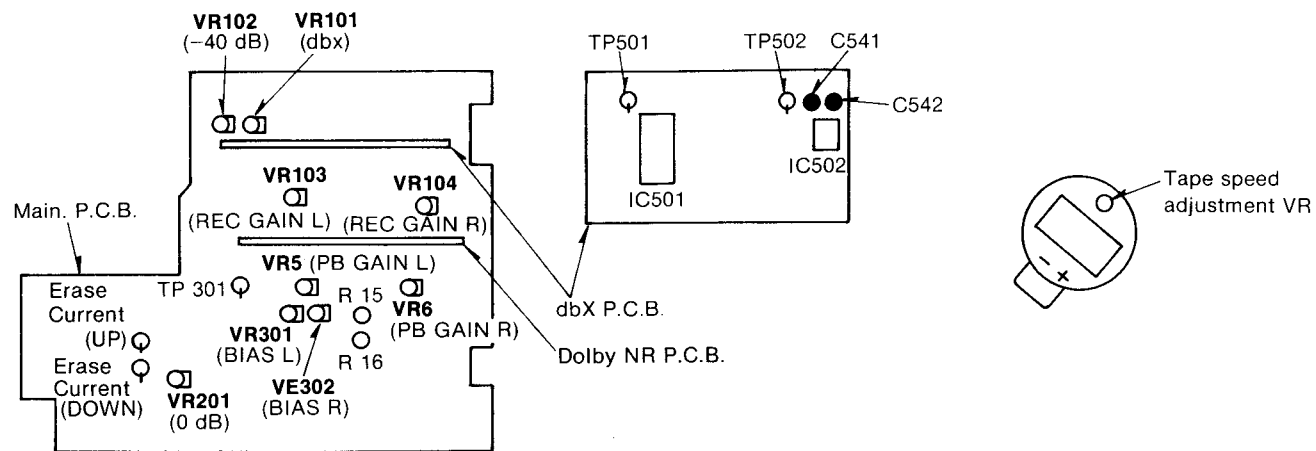
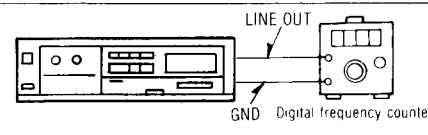

Fig. 1
Fig. 7
<p>Tape speed</p> <p>Condition: • Playback mode</p> <p>Equipment: • Digital frequency counter • Test tape...QZZCWAT</p>	<p>Tape speed accuracy</p> <p>1. Test equipment connection is shown in fig. 7.</p> <p>2. Playback test tape (QZZCWAT 3,000Hz), and supply playback signal to the digital frequency counter.</p> <p>3. Measure this frequency.</p> <p>4. On the basis of 3,000Hz, determine value by following formula:</p> $\text{Tape speed accuracy} = \frac{f-3,000}{3,000} \times 100(\%) \quad \text{where, } f = \text{measured value}$ <p>5. Take measurement at middle section of tape.</p> <p style="text-align: center;">Standard value: ±0.33% (3000±10 Hz)</p> <p>6. If measured value is not within the standard value, adjust it by using the tape speed adjustment VR shown in fig. 1.</p> <p>Note: Please use non metal type screwdriver when you adjust tape speed accuracy on this unit.</p> <p>Tape speed fluctuation</p> <p>Make measurements in same manner as above (beginning, middle and end of tape), and determine the difference between maximum and minimum values and calculate as follows:</p> $\text{Tape speed fluctuation} = \frac{f_1-f_2}{3,000} \times 100(\%) \quad f_1 = \text{maximum value, } f_2 = \text{minimum value}$ <p style="text-align: center;">Standard value: Less than 1%</p>
<p>Playback gain</p> <p>Condition: • Playback mode</p> <p>Equipment: • EVM (Electronic Voltmeter) • Oscilloscope • Test tape...QZZCFM</p>	<p>1. Test equipment connection is shown in fig. 2.</p> <p>2. Playback standard recording level portion on test tape (QZZCFM 315Hz) and, using EVM, measure the output level at LINE OUTs.</p> <p>3. Make measurements for both channels.</p> <p style="text-align: center;">Standard value: 0.4V±0.5 dB (0.02V)</p> <p>Adjustment</p> <p>1. If the measured value is not within the standard, adjust VR5 (L-CH) or VR6 (R-CH). (See fig. 1.)</p> <p>2. After adjustment, check "Playback frequency response" again.</p>
<p>Erase current</p> <p>Condition: • Record mode</p> <p>Equipment: • EVM (Electronic Voltmeter) • Oscilloscope • Test tape (reference blank tape) ...QZZCRZ for Metal</p>	<p>1. Test equipment connection is shown in fig. 2.</p> <p>2. Insert the metal tape.</p> <p>3. Press the record button.</p> <p>4. Read voltage on the oscilloscope and calculate the formula:</p> <p style="text-align: center;">Standard value: 0.4V±0.5 dB (0.02V)</p> <p>5. If the measured value is not within the standard value, adjust VR5 (L-CH) or VR6 (R-CH). (See fig. 1.)</p> <p>6. After adjustment, check "Playback frequency response" again.</p>
5. If the measured value is not within the standard value, adjust VR5 (L-CH) or VR6 (R-CH). (See fig. 1.)
3. If the erase current is not within the standard value, adjust VR5 (L-CH) or VR6 (R-CH). (See fig. 1.)
4. If the erase current is not within the standard value, adjust VR5 (L-CH) or VR6 (R-CH). (See fig. 1.)
1. Test equipment connection is shown in fig. 7.
6. If measured value is not within the standard value, adjust it by using the tape speed adjustment VR shown in fig. 1.
1. If the measured value is not within the standard, adjust VR5 (L-CH) or VR6 (R-CH). (See fig. 1.)
1. Short points (A) and (B) on the main circuit board. (See fig. 1)
3. If the erase current is less than 140 mA, open the DOWN point (B).
4. If the erase current is more than 170 mA, open the UP point (A).